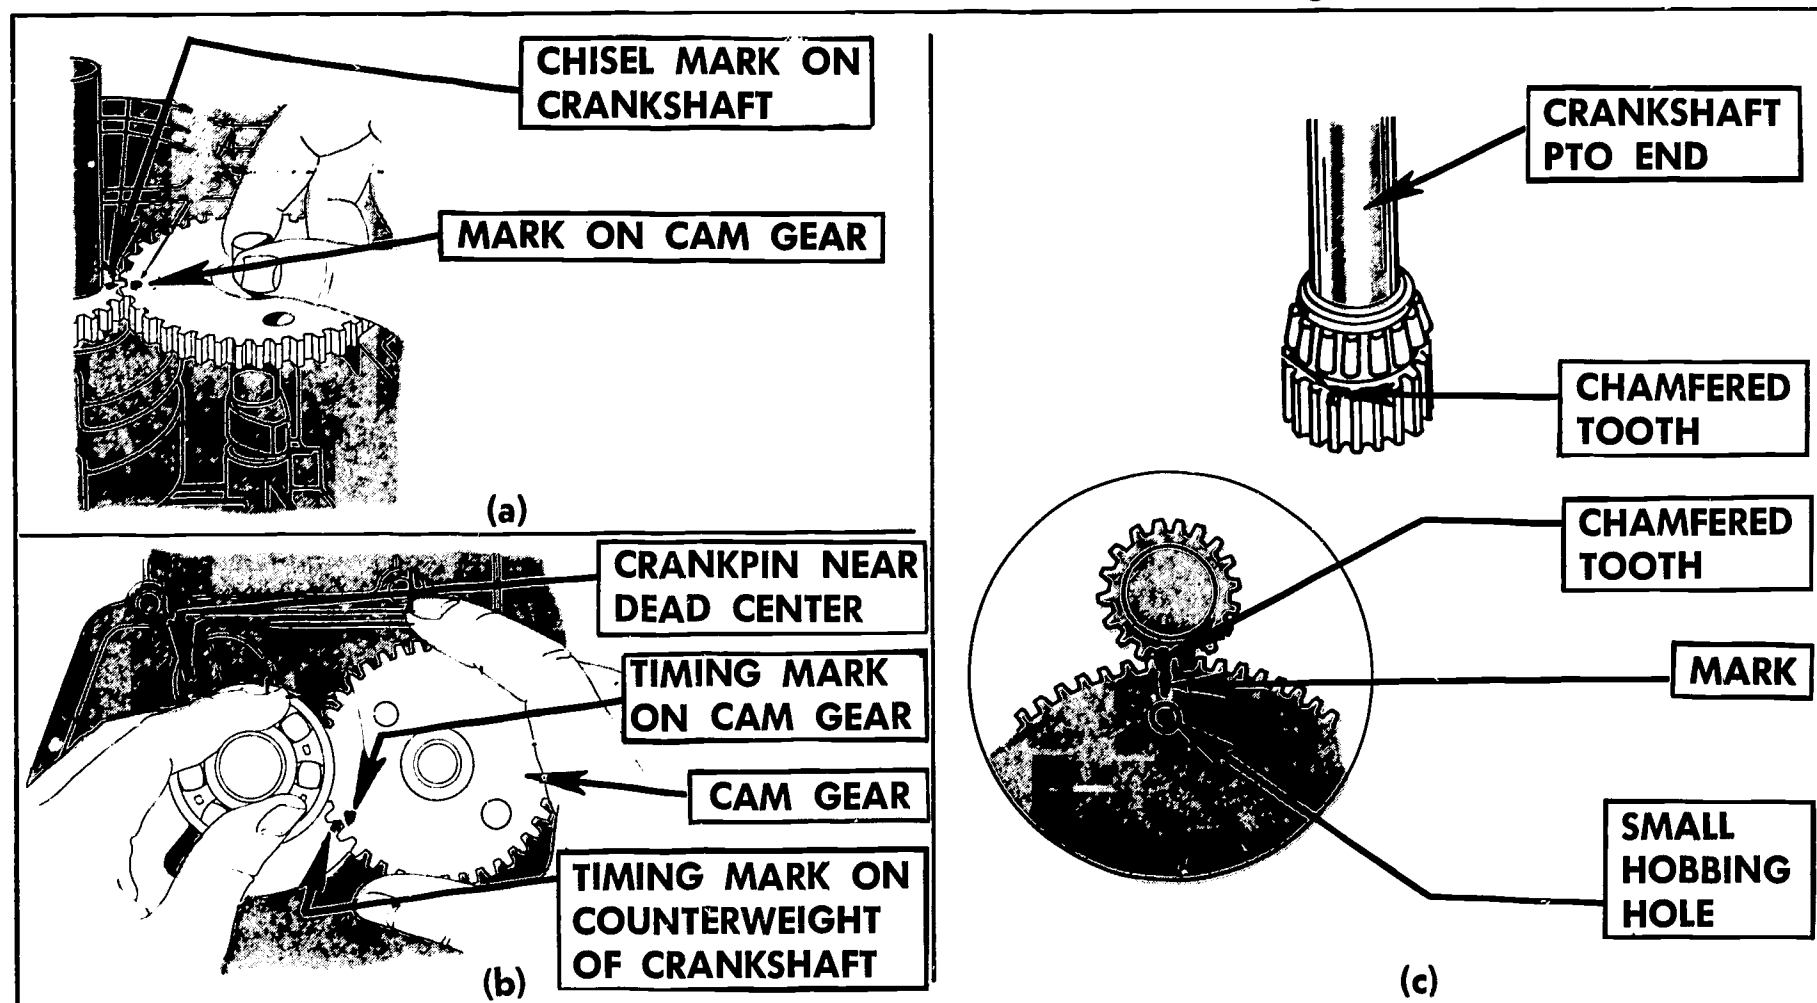

FIGURE 288. Valve timing marks are shown in different ways. (a) Chisel or punch marks. (b) Punch marks. (c) Chisel marks and chamfered tooth.
2. *Note the position of the timing marks on the camshaft and crankshaft gears (Figure 288).*